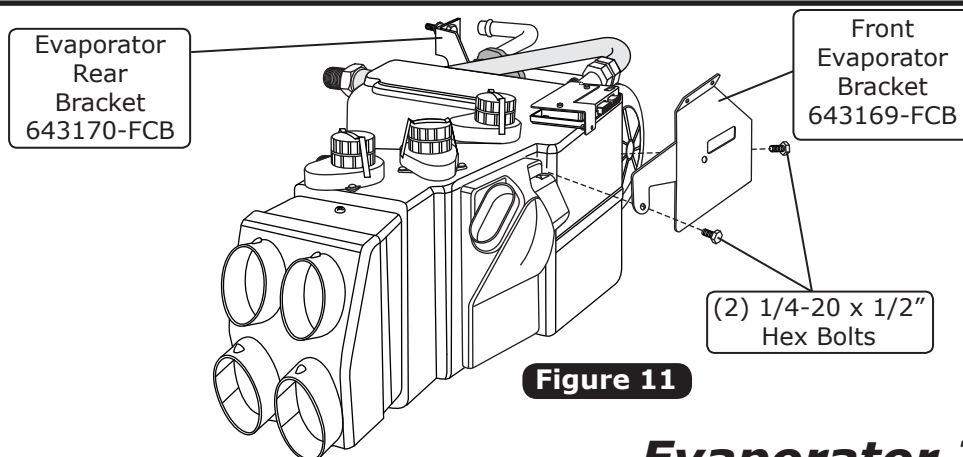

Figure 11
3. Install the front mounting bracket onto the evaporator using (2) 1/4-20 x 1/2" hex bolts as shown in Figure 11, below.